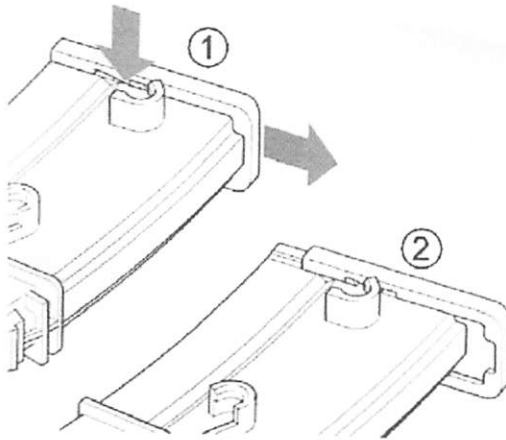

Fig. 27 Take off magazine floor plate
- ⇒ With your thumb directly below the bottom of the magazine, (Fig. 27/Arrow), briefly compress the magazine housing and simultaneously withdraw the magazine floor plate up to the second notch (2).
- ⇒ In the same spot once more compress the magazine housing and slowly pull off the magazine floor plate altogether (Fig. 27).